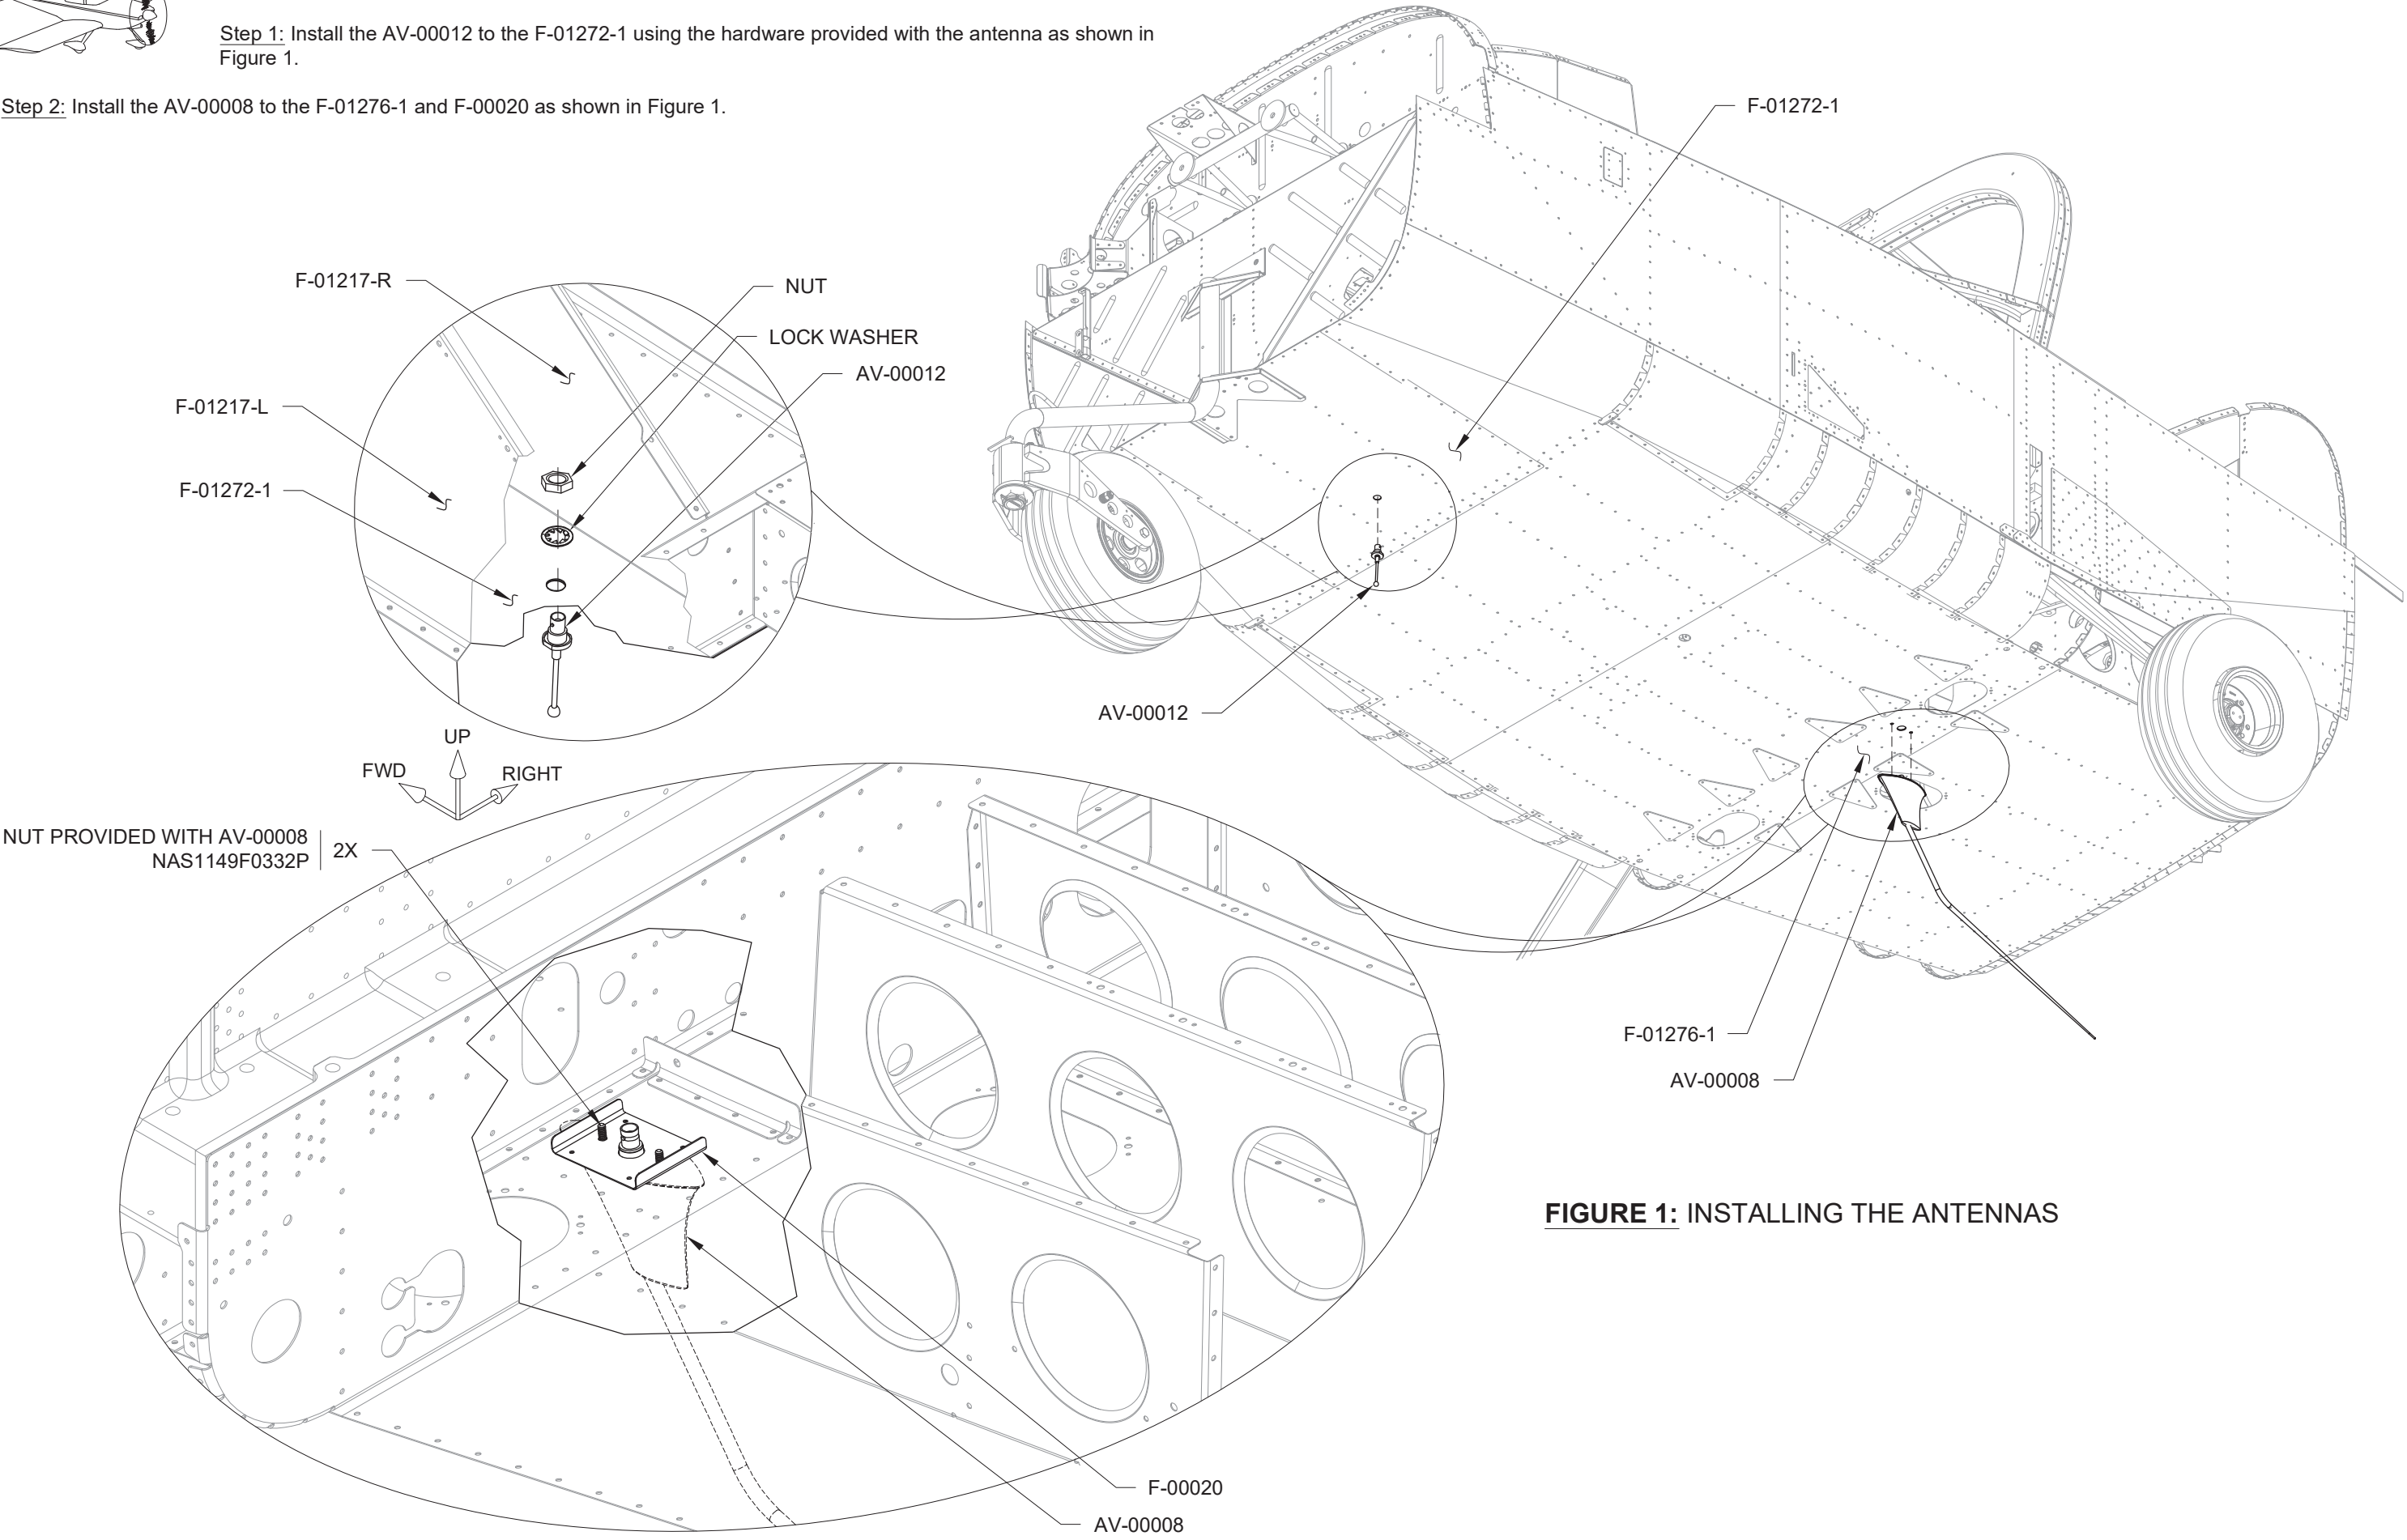

FIGURE 1: INSTALLING THE ANTENNAS
Step 2: Install the AV-00008 to the F-01276-1 and F-00020 as shown in Figure 1.
Step 1: Carefully drill #11 the WD-01212-1 Control Stick as shown in the Detail View in Figure 1 below.